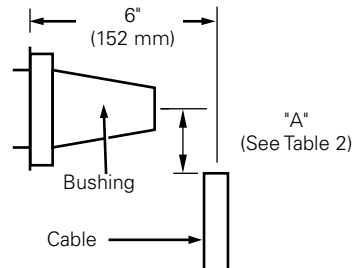

Figure 3. Line illustration for cable training.
- Cut cable to length "A" from centerline of bushing. (Refer to Figure 3 and Table 2 for "A" length).